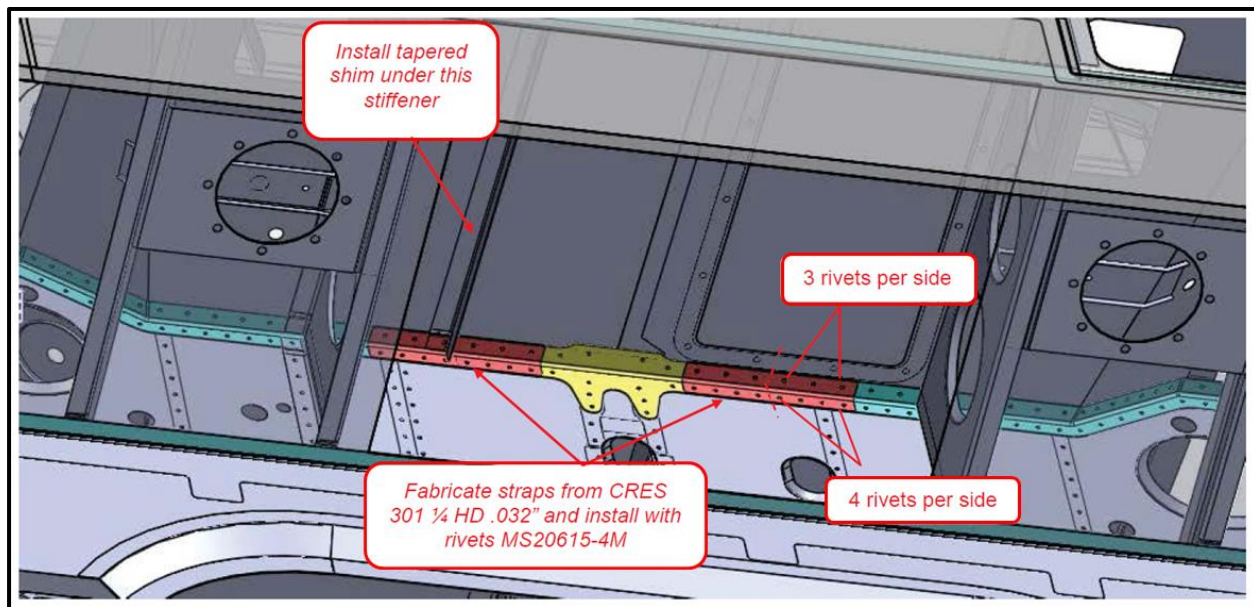

Figure 7 - Beam Assy STA4010.0 to STA4460.0 – Replacement procedures
10. Install tapered shim under stiffener as shown in Figure 7.
11. Install butt straps (Supplies Ref. 9) ensuring 3 rivets for each side on one flange and 4 rivets for each side on the other remaining flange as shown in Figure 7.